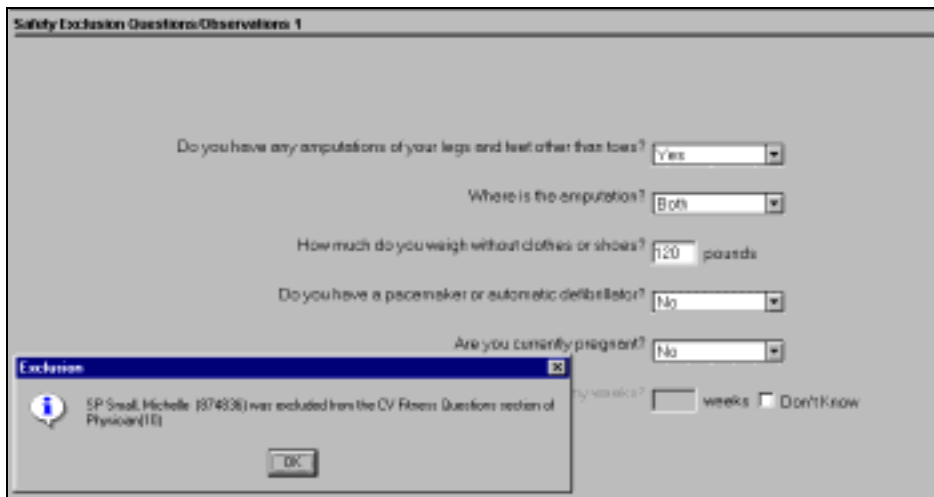

Figure 4-3. Shared exclusion questions (amputations 2)
- The system will then display a series of messages about the components that will be excluded due to amputation. Click OK to these messages. See Figure 4-3.